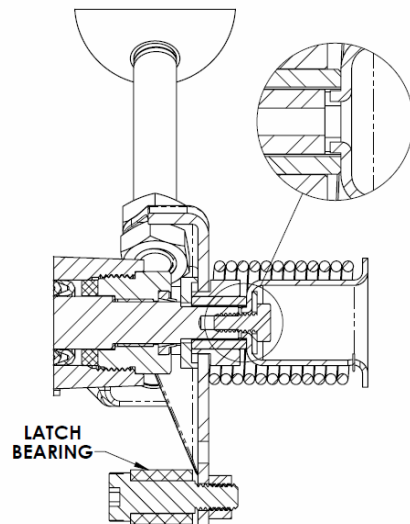

FIGURE 1: INSTALLATION OF SPRING RETAINER
16. **For ME980-10 and ME980-16:** Apply loctite #271 to threads of Body [1], place Flange [2] on Body [1], and install (4) Flange Bolts [7] into Body and tighten in "star" pattern and confirm that all screws are tightened.
**For ME980-24:** Apply loctite #271 to threads of Body [1], place Flange [2] on Body [1], and install (8) Flange Bolts [7] into Body [1] and tighten in "star" pattern and confirm that all screws are tightened.
19. With Clapper closed, Install Handle Assembly [21] onto Stem [20A] with Latch Bearing facing down (Figure1).
22. Install Spring Retainer [12] into Thermal Link [16] as shown (Figure 1) with Handle Spring [13] arm oriented as shown (Figure 2).